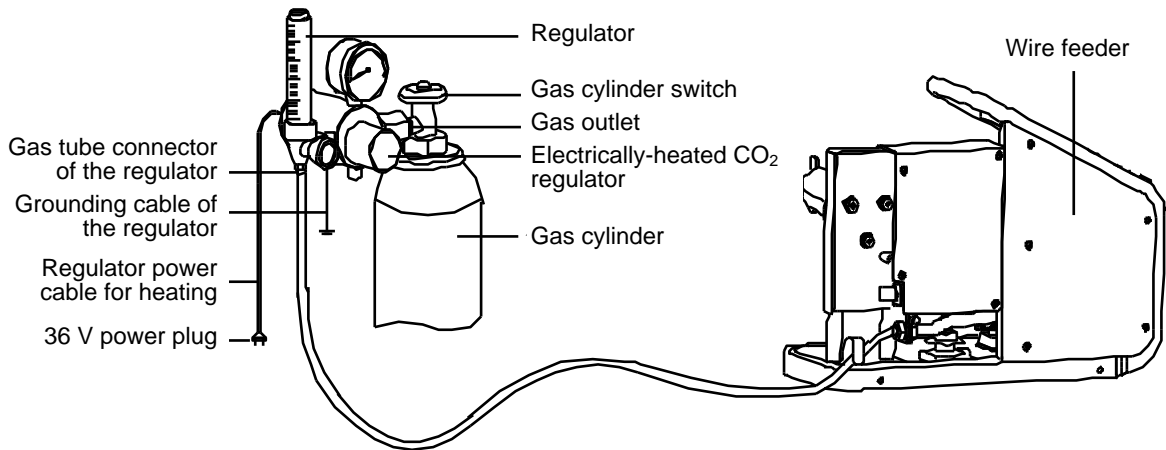

Figure 2-3 Schematic diagram of connecting the gas tube
1. Use installation nuts to mount the electrically-heated CO2 regulator (see Figure 2-3) to the gas outlet of the gas cylinder, and fasten the regulator.
4. Connect the grounding cable to implement reliable grounding. Figure 2-3 shows the cable connections.